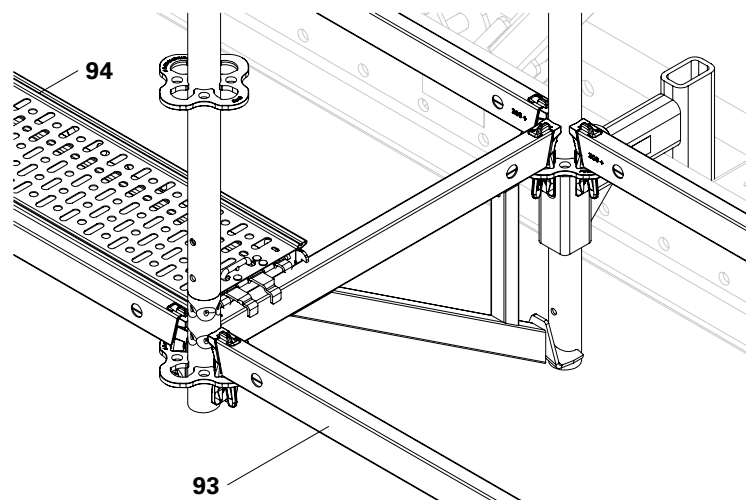

Fig. D1.09
4. Hook the ledger (93) into the lower rosettes on both sides. The ledger is positioned parallel to the truss package. (Fig. D1.09)